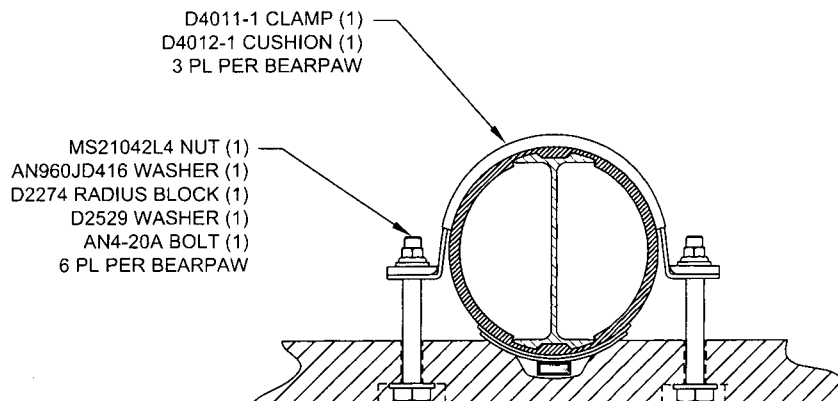

Figure 2 - D4011-1 Clamp Installation
- 2.3 Attach the D4011-1 clamps with the hardware shown in Figure 2 of this Service Instruction. Additional AN960JD416 (or NAS1149D0463J) washers may be installed under the nuts to ensure 1.5-4 threads in safety on the bolts. Although not generally necessary, it is also acceptable to replace the AN4-20A bolts with longer or shorter AN4 bolts, if required.